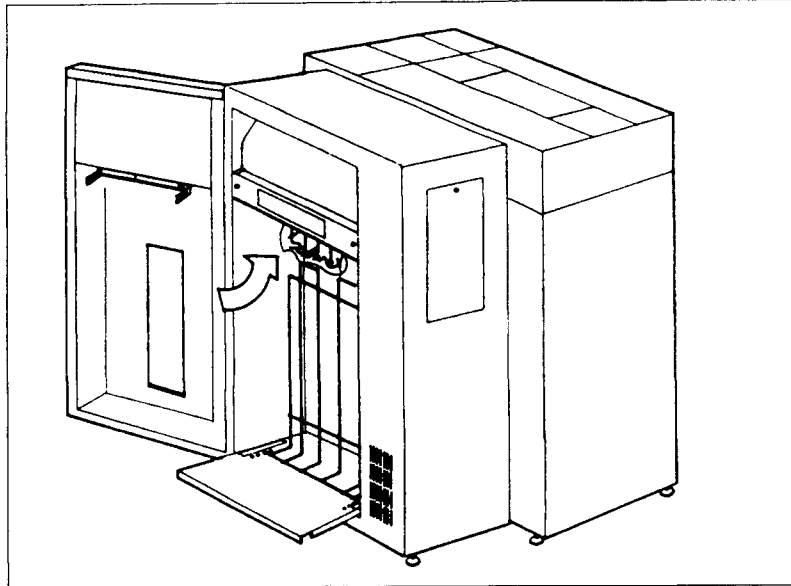

Figure 2-14. Releasing Backstop Chains
- l. Untape the bag holding the chains on the panel under the static brush. Let the chains hang freely in front of the backstop (Figure 2-14). Make sure all tape is removed in this area.